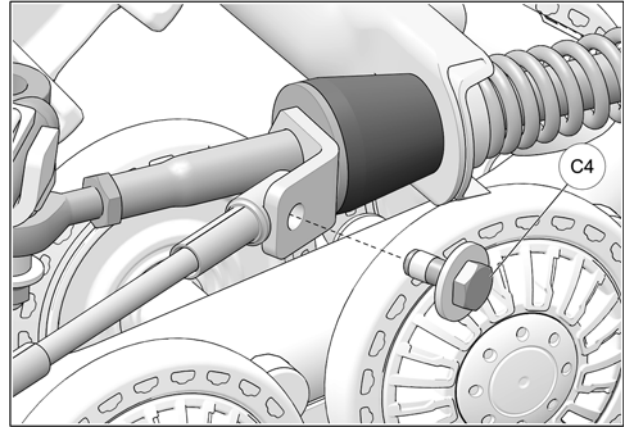

Fig. 18
14. Reverse steering wheel a little to be able to bolt support plate and cable together. Tighten provided bolt (C4) to 35 N•m [24 lb•ft]. See Fig. 18. Repeat steps on right side.